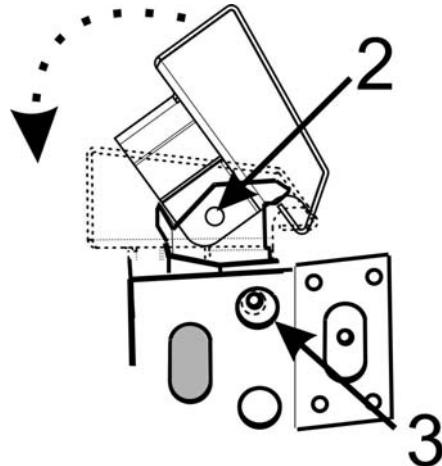

Figure 6: Island Trim placement 2
11. Rotate the Island Trim into position where the Island Trim side mounting hole 2 is visible through hole 3 on both sides of the range (see Figure 6: Island Trim placement 2).